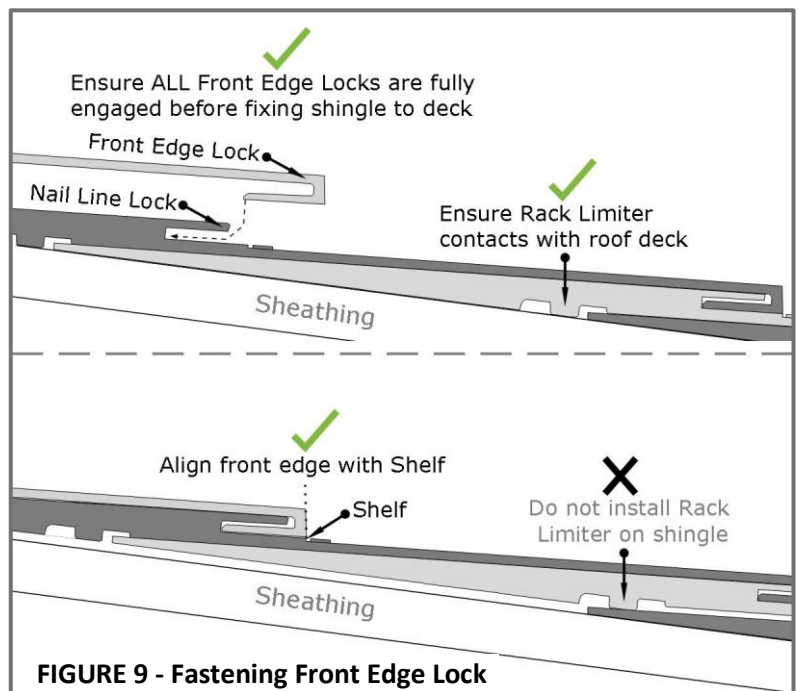

FIGURE 9 - Fastening Front Edge Lock
- The front edge of F-WAVE® REVIA® XTM™ Roofing Shingles must be mechanically locked in place to provide strong wind uplift resistance. See **Figure 9**.